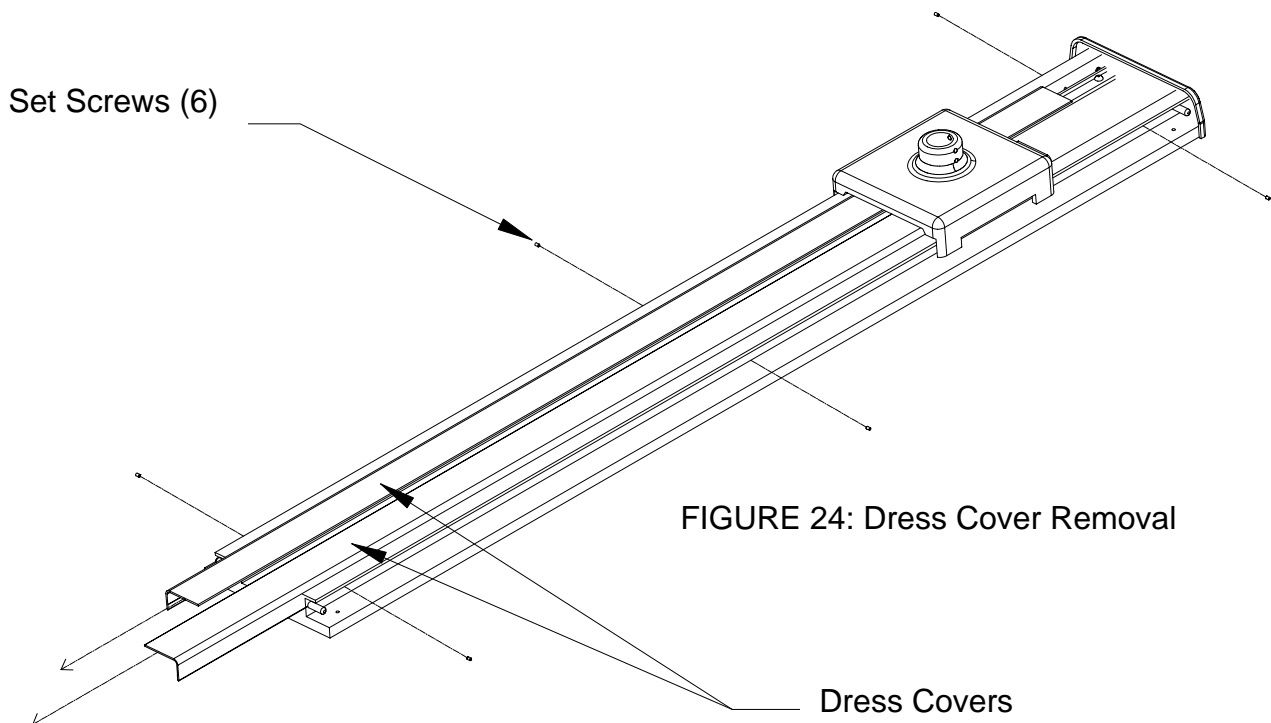

FIGURE 24: Dress Cover Removal
- Loosen the three #8 set screws along each side of the track channel extrusion P/N 1001500 with the provided hex Allen wrench. Remove both dress covers P/N 1001515. See figure 24.